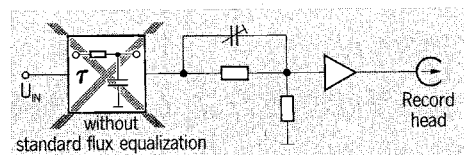

Fig. 3
cy response ③ can be accomplished with a simple RC network (Fig. 3).